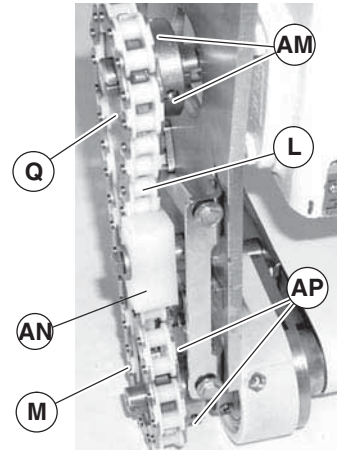

Figure 29
- Loosen timing chain tensioner (Figure 29, item AN).